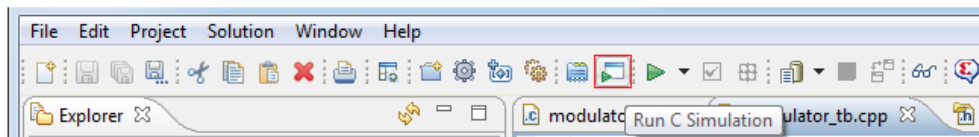
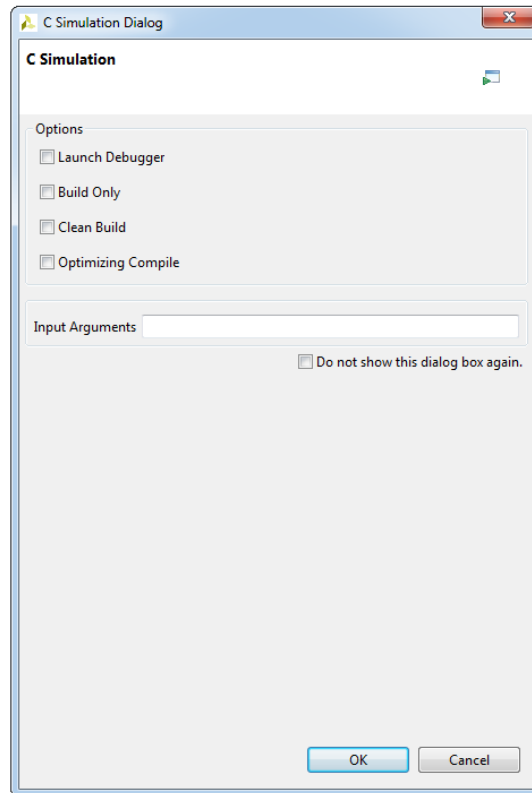

Figure 2.16: Run C Simulation button
Figure 2.17: C Simulation dialog box
1. Click the **Run C Simulation** toolbar button (Figure 2.16) to open the **C Simulation** dialog box, shown in the Figure 2.17.